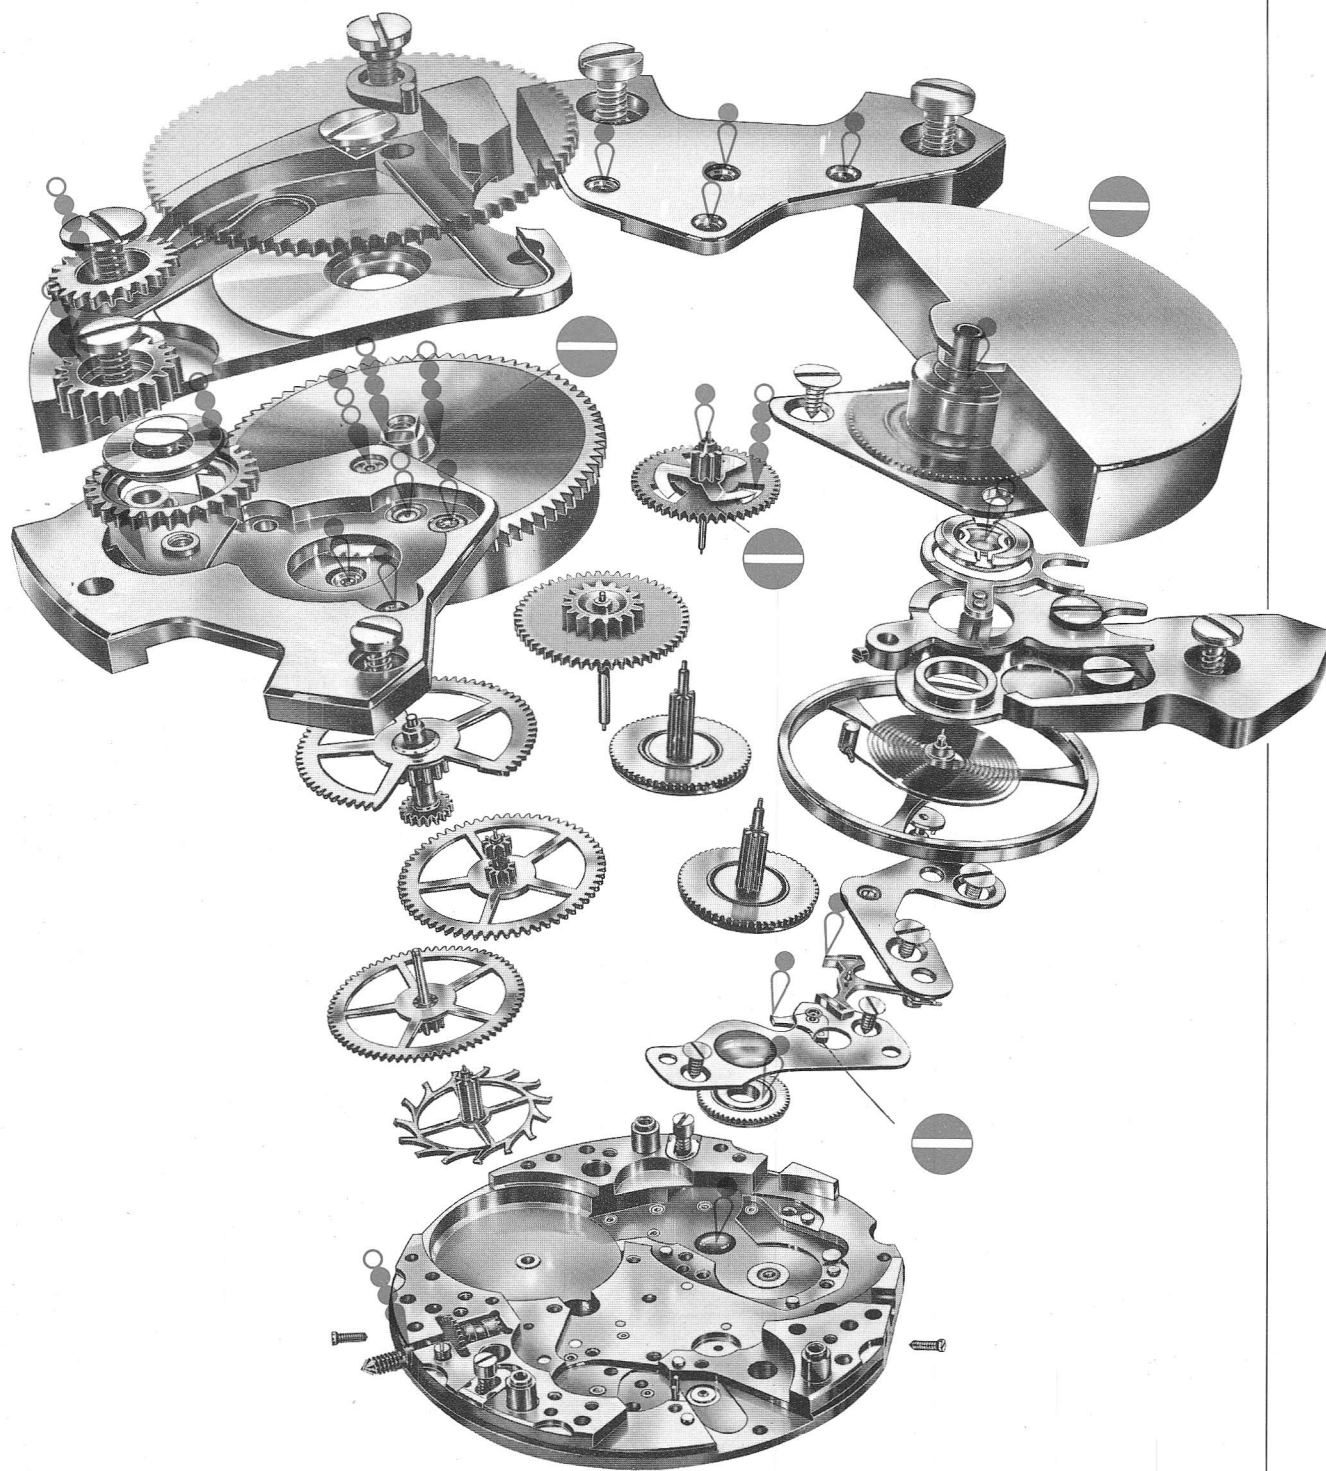

Fig. 11
- Press on the oscillating weight near the support at the arbor, and simultaneously lift it at the periphery at the point where it needs to be corrected. In this manner the force necessary to correct it is not exerted on the arbor. For cleaning and lubrication, see fig. 11 and under paragraph 4.5.2.